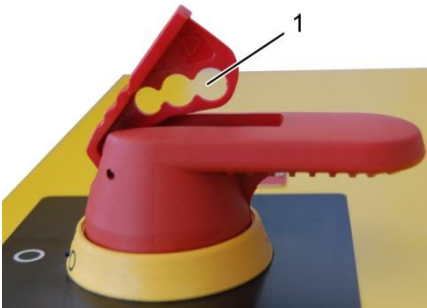

Fig. 70: Securing safety clip
3. Use a lock to secure the safety clip (Fig. 70).